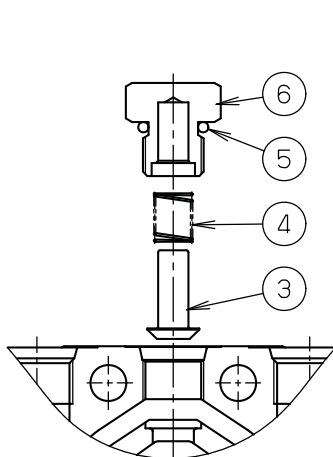

Fig.4 Check valve
### Standard type check valve (see Fig.4)
- ① Hold the control valve body at workbench or hold it by two or more people.
- ② Loosen and remove check valve plug (⑥) at the center of the control valve upper surface with 19 mm screw wrench or socket wrench. When it is hard to loosen the plug because O-ring (⑤) bites the screw, do not loosen forcibly; refasten it once and then try to loosen again.
- ③ From the hole where check valve plug has been removed, remove check valve spring (④) and check valve (③) with tweezers or magnet.
- The numbers in fig.4 are the same as those in the dozer component. In the specifications and drawings.